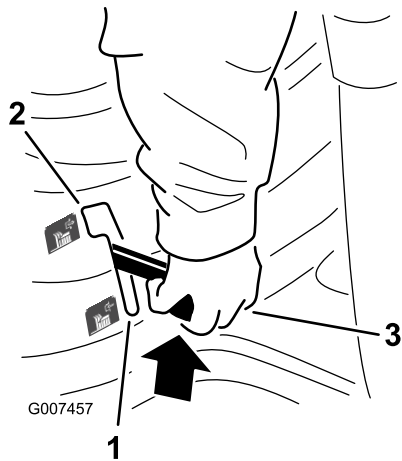

Figure 6
2. Slowly shift the blade control (PTO) to Engage (Figure 6).
2. Shift the blade control (PTO) to Disengage (Figure 6).